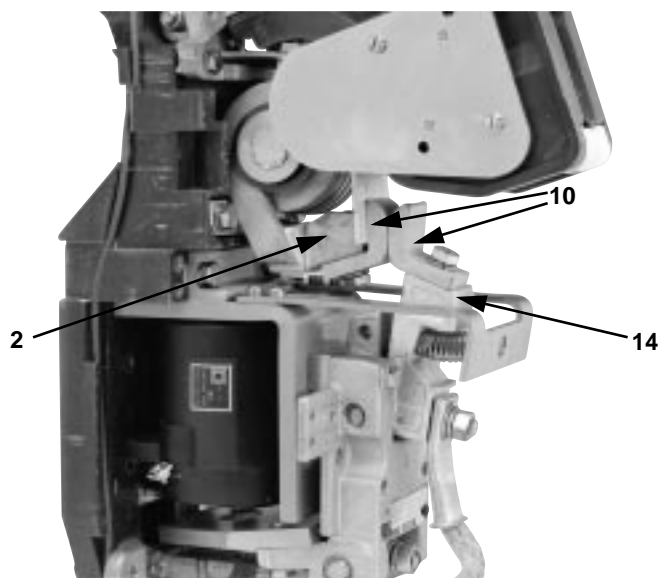

Figure 2: Contact Arm Assembly
Contactors may require contact alignment or adjustment of the electrical interlocks. This section describes the adjustment procedures. Refer to Figure 2 when aligning the contact tip.
2. Visually verify that movable contact tip (item 10) is properly seated against the ridge located on the auxiliary arm (item 14). See Figure 2.
3. Visually verify that stationary contact tip (item 10) is seated against the stationary contact support located on the blowout coil assembly (item 2). See Figure 2.